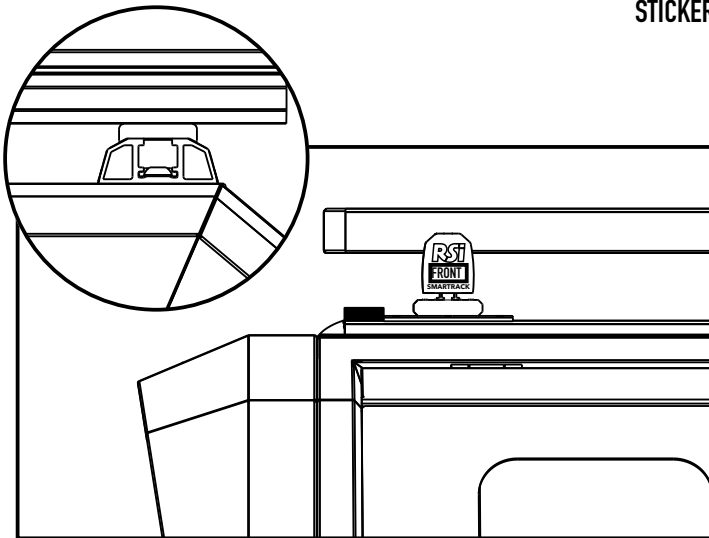

FIGURE 5
3. CAREFULLY PLACE THE SMART RACK ONTO THE ROOF RAILS, WITH THE FRONT MOUNTING FEET LOCATED UP AGAINST THE LOCATING GAUGES. [SEE FIGURE 5]
4. PLEASE NOTE THAT THE SMART RACK FEET HAVE A PROFILE MATCHING THAT OF THE ROOF RAILS TO FACILITATE EASE OF FITMENT. [SEE FIGURE 5]
5. ALIGN THE WELDNUTS, WHICH WERE FITTED IN STEP 1, WITH THE SMART RACK MOUNTING HOLES. [SEE FIGURE 5]